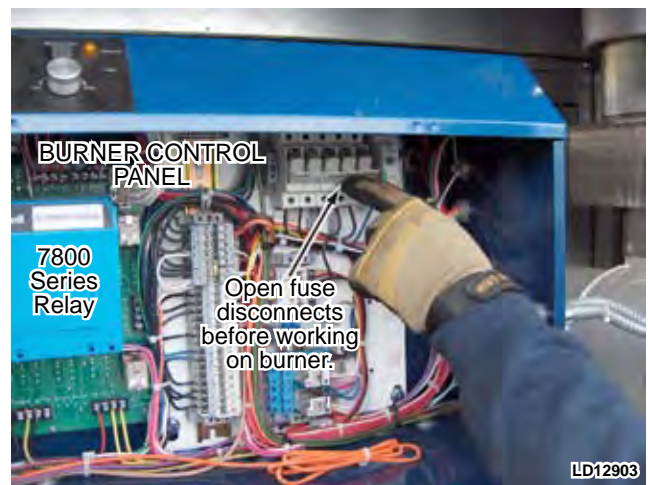

FIG. 5-125 – OPEN FUSE DISCONNECTS
1. Disconnect power to the burner and ID fan at fuse disconnects located in the control panel of the main burner (*see Fig. 5-125*).